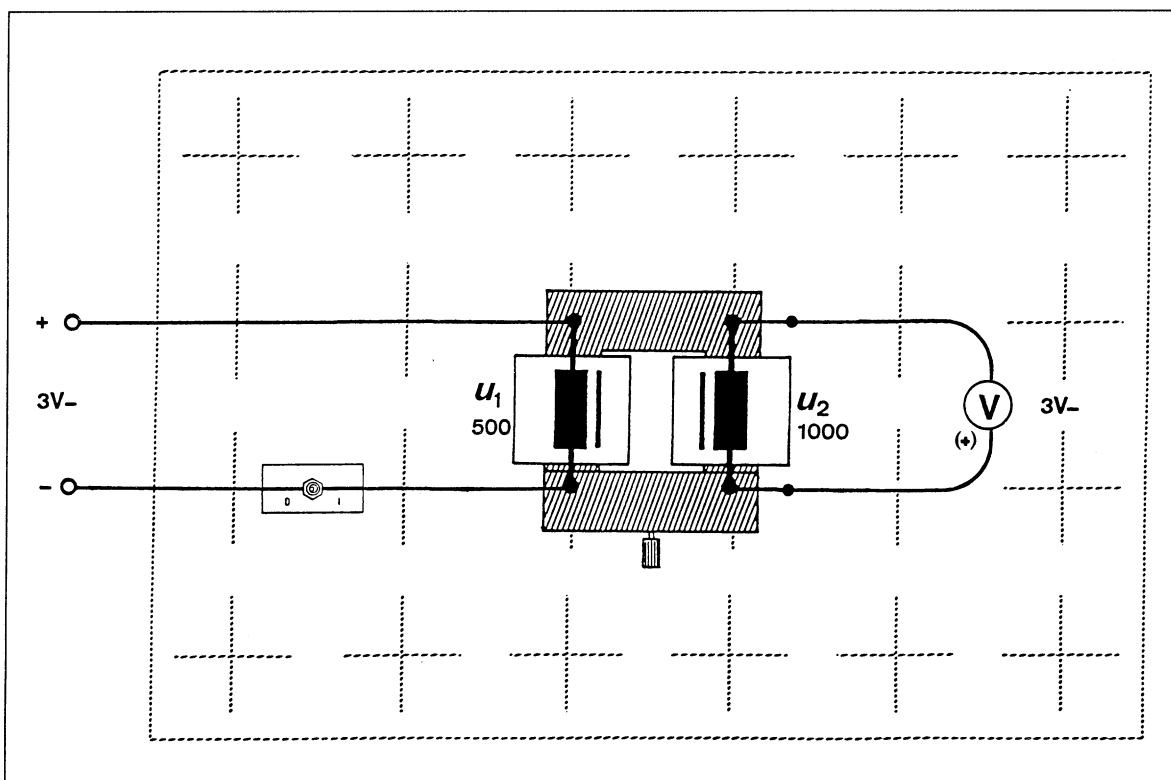

Fig. 1 Experiment setup: electromagnetic induction with two coils
1. Set up the circuit as shown in Fig. 1. Make sure the switch is in position 0 (open).